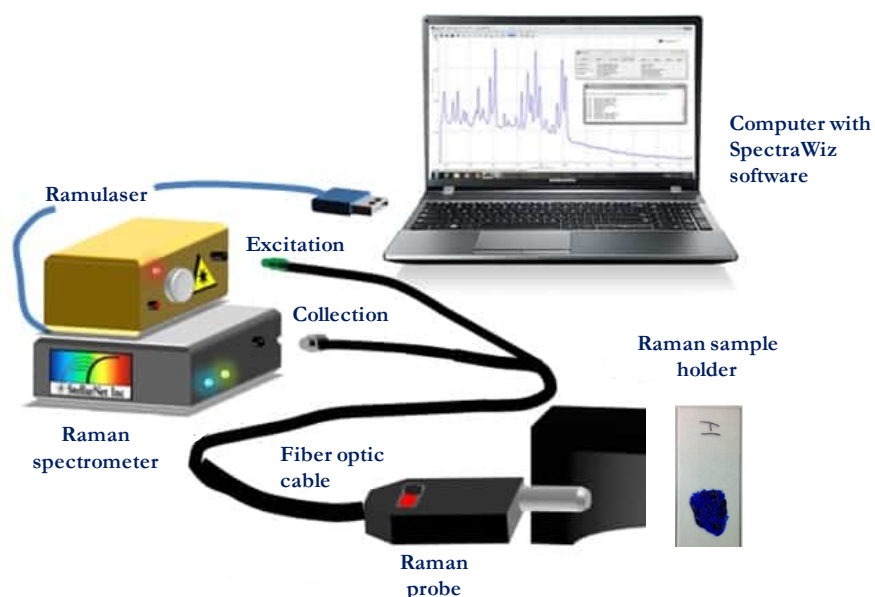

Figure 1: StellarNet Raman spectroscopy system
1. Familiarize yourself with the spectrometer system you will use for this experiment. Using Figure 1 as a guide, explain what is different from the setup you used in the last experiment.